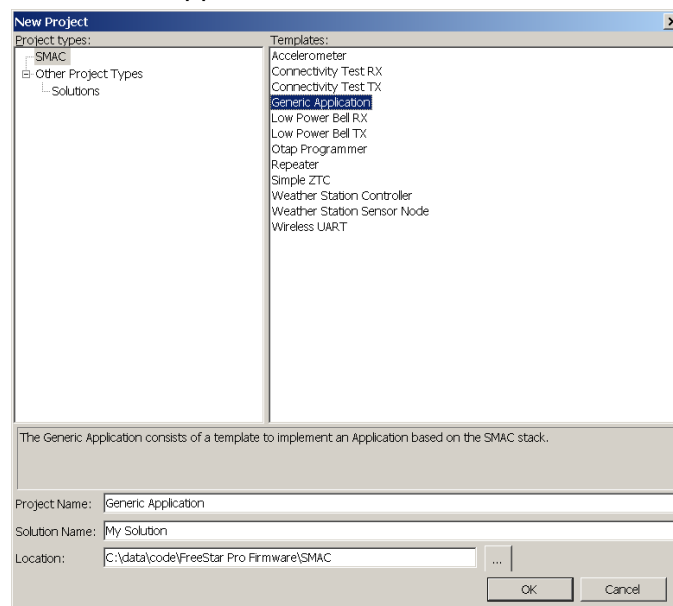

Figure 3 – Screen, BeeKit – New Project
- The project was based on the '**Generic Application**' template in **BeeKit™** (see Figure 3) with changes to a few of the Application Source files.